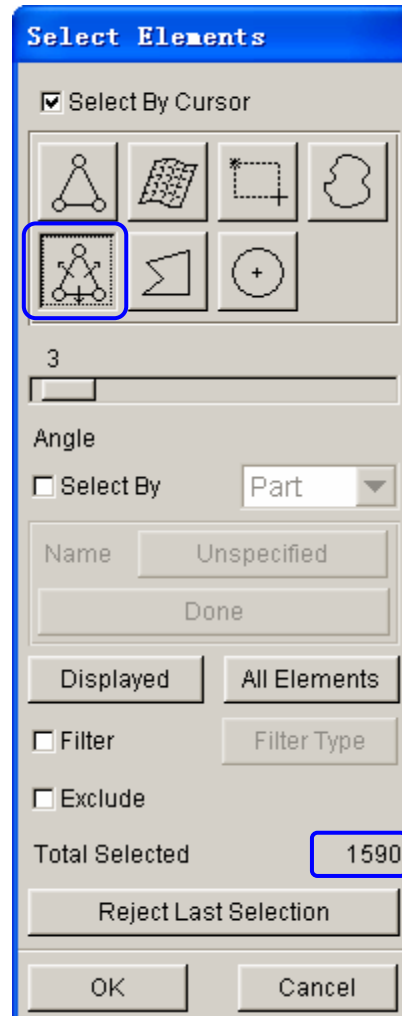

Figure 1.27 Select binder elements
20. Click the **Spread** icon illustrated in Figure 1.27. Then, move the slider bar to set the spread angle as **3°**. Next, use the mouse cursor to pick an element on the binder surface. The elements on binder surface are highlighted, as illustrated in Figure 1.28. As illustrated in Figure 1.27, 1590 elements have been selected.